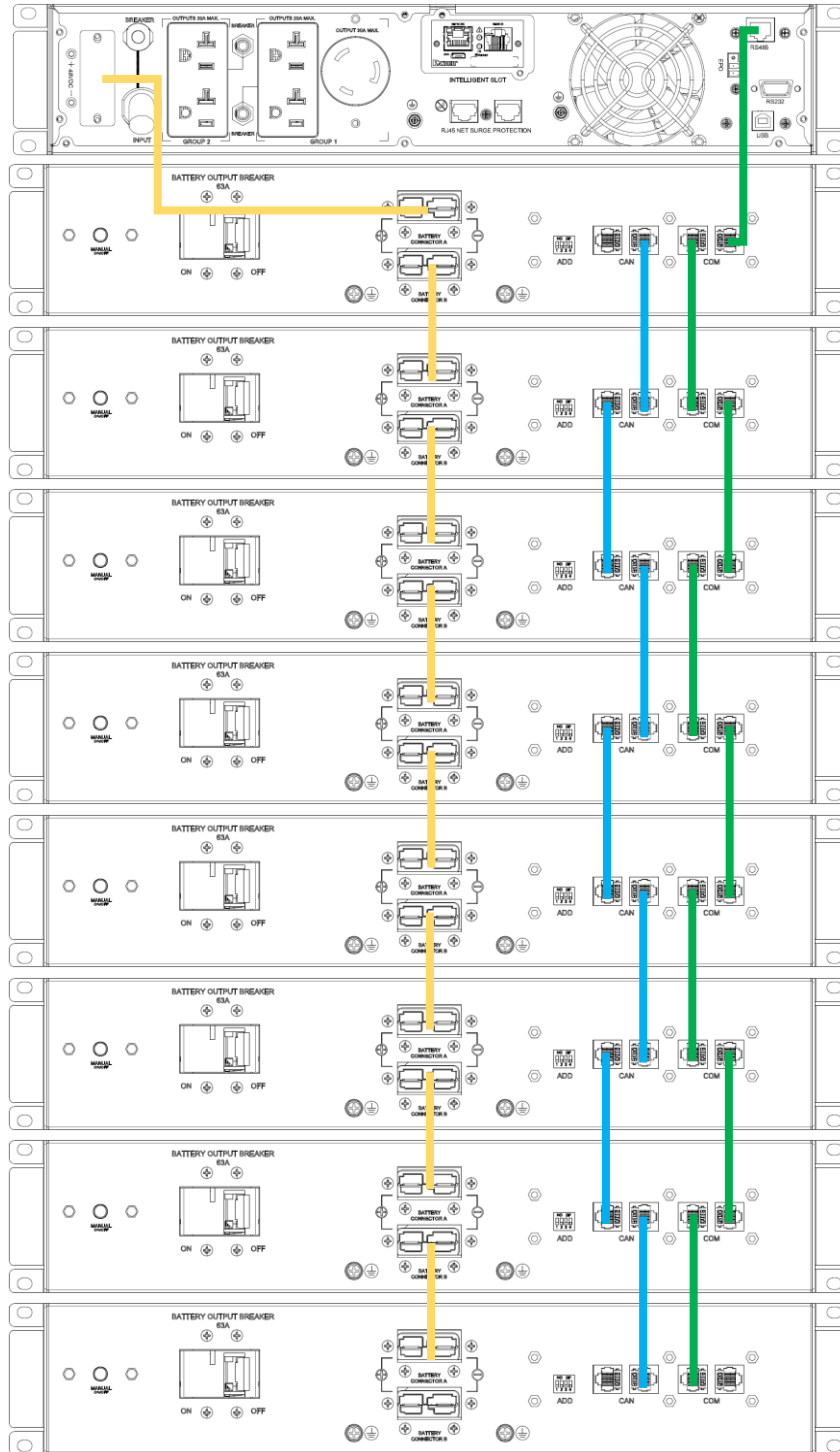

Figure 67b: Example 3kVA Lithium Long Runtime UPS EBP System (8x UVPL50H shown)
- For 1-3kVA Long Runtime Lithium UPS models, reference Figure 67b